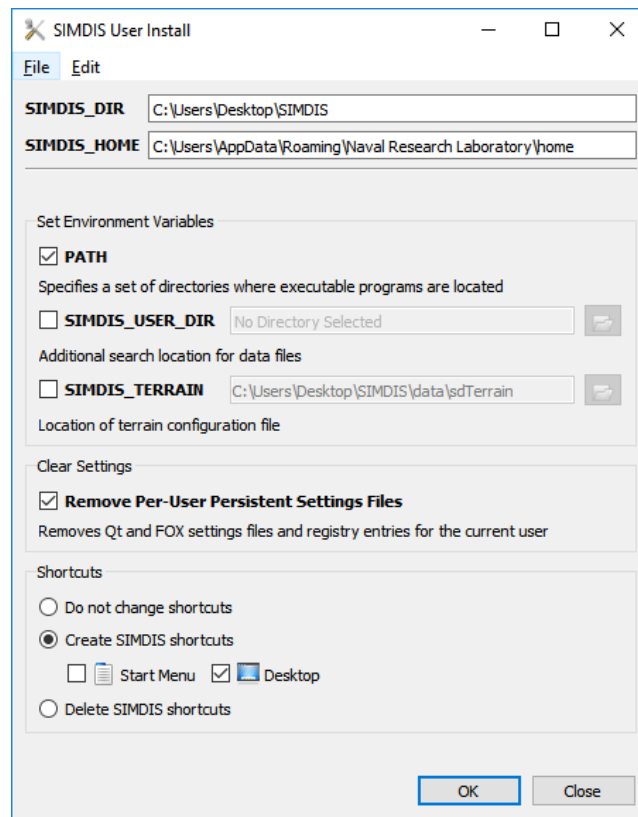

Figure 2.3: User Install Dialog - Zip Install Settings
5. Set the **PATH** Environment Variable, **Remove Per-User Persistent Settings File** in Clear Settings, and click the **Create SIMDIS shortcuts** radio button and check **Desktop**. Refer to Figure 2.3.